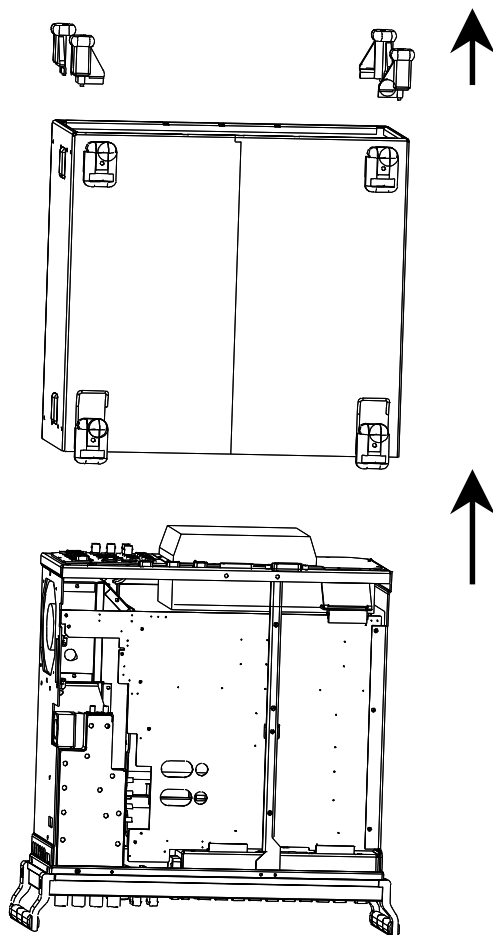

Fig.1
- 1.3 Place unit on handles at the front, push casing upwards and remove (Fig. 1).